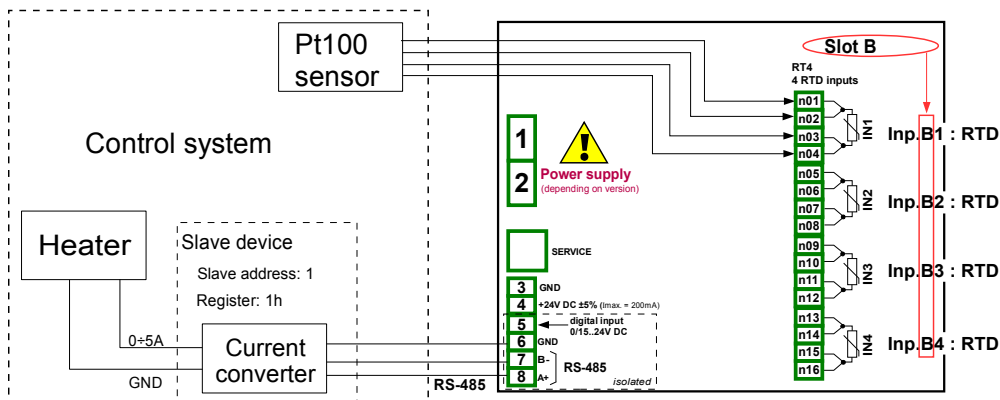

Fig. 7.77. Schematic diagram for the RT4 module and MB1 Modbus port
Before measuring and regulating the temperature, the user should configure the device as follows and then connect the RTD sensor and the Current converter to the device. An example of the connection is shown in **Fig. 7.77.**
- **Source** parameters set as **Inp.A1 : RTD** (see **Fig. 7.77**),
- **Precision** parameters set as **0.00** , because with this precision we can send a signal from the controller to the Current converter (see **Fig. 7.77**),